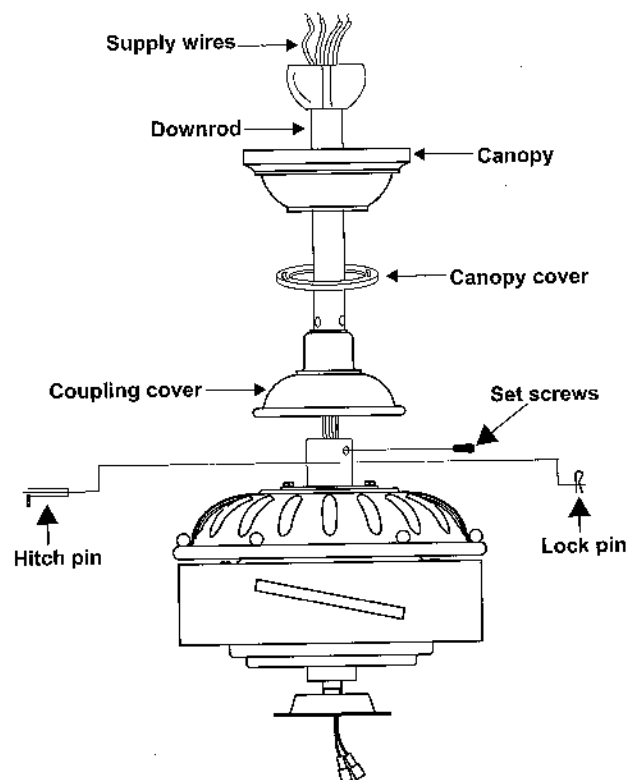

Figure 8
5. Loosen the two set screws and remove the hitch pin and lock pin from the central shaft/top coupling of the motor assembly. Doing so will allow the down rod to enter the central shaft. (Fig. 8)
6. Route wires exiting from the top of the fan motor through the coupling cover, canopy cover and canopy and then through the ball/downrod. (Fig. 8)
7. Align the holes at the bottom of the downrod with the holes in the collar on top of the motor housing. Carefully insert the hitch pin through the holes in the collar and downrod. Be careful not to jam the pin against the wiring inside the downrod. Insert the lock pin through the hole near the end of the hitch pin until it snaps into its locked position. (Fig. 8)